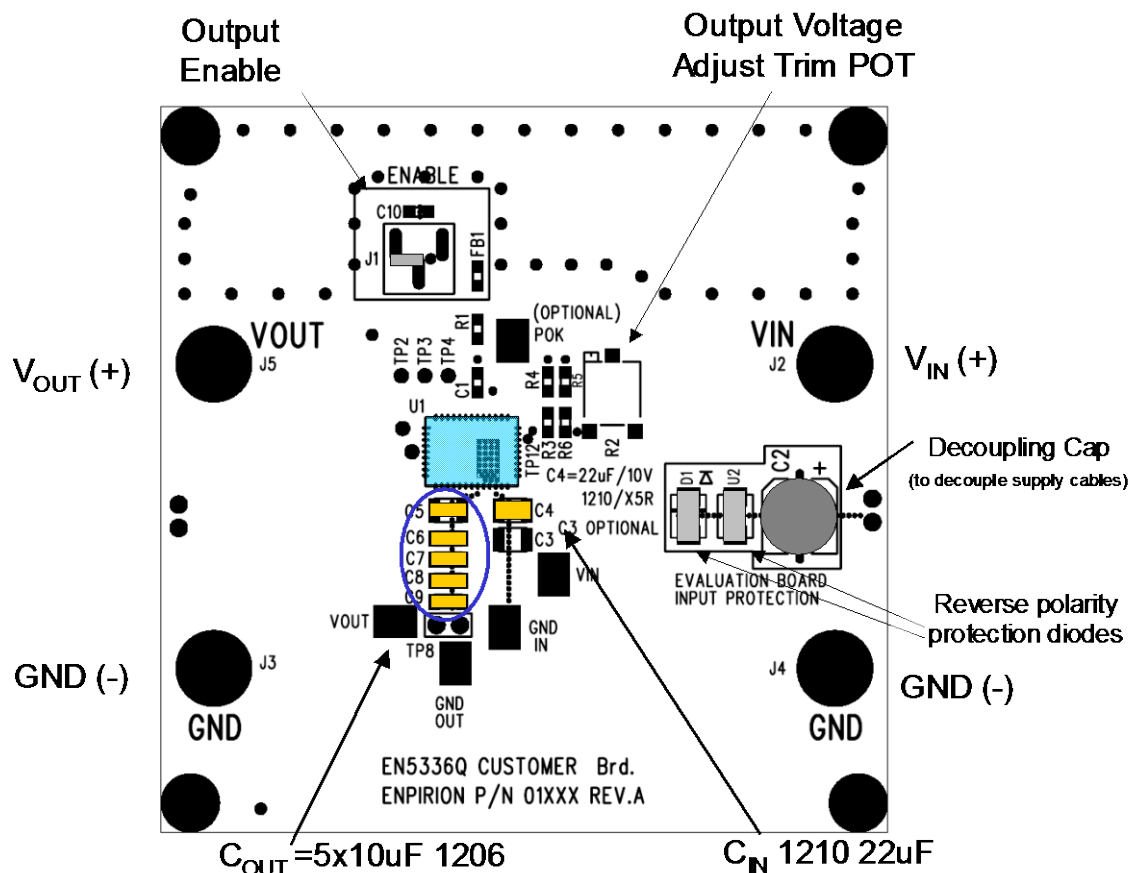

Figure 1. Evaluation Board Layout.
Figure 1 shows a top view of the evaluation board.
STEP 2: Connect Power Supply to the input power connectors, VIN (+) and GND (-) as indicated in Figure 1.
STEP 3: Connect the load to the output connectors VOUT (+) and GND (-), as indicated in Figure 1.